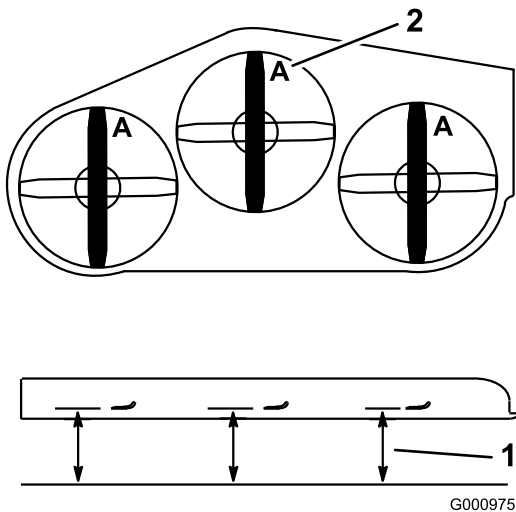

Figure 101
4. Measure at **A**, and from a level surface to the cutting edge of the blade tips (Figure 101).